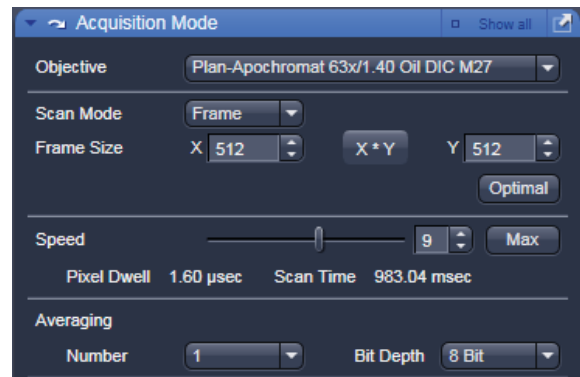

Fig. 4-79 Acquisition Mode tool
- Open the Acquisition Mode tool (Fig. 4-79).